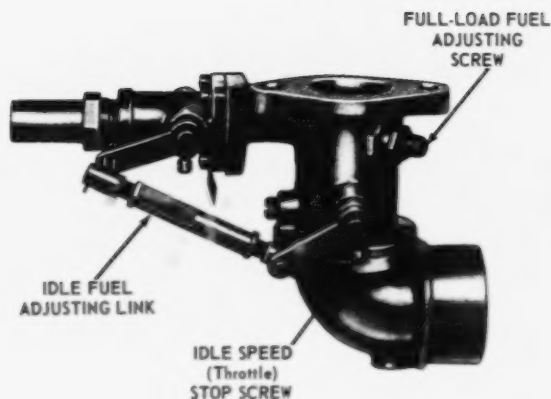

Fig. 26—Adjusting Points On A Typical LP-Gas Carburetor
2. Adjust the idle speed at the throttle stop screw (Fig. 26). Normally adjust with the throttle disk closed and try to get the slowest engine idling speed without stalling or "roughening." See your operator's manual for recommended idle rpm.
3. Adjust the idle fuel mixture at the adjusting link (Fig. 26). With the engine at slow idle, turn the link until the engine begins to stall. Then turn the link the other way until the engine idles smoothly.